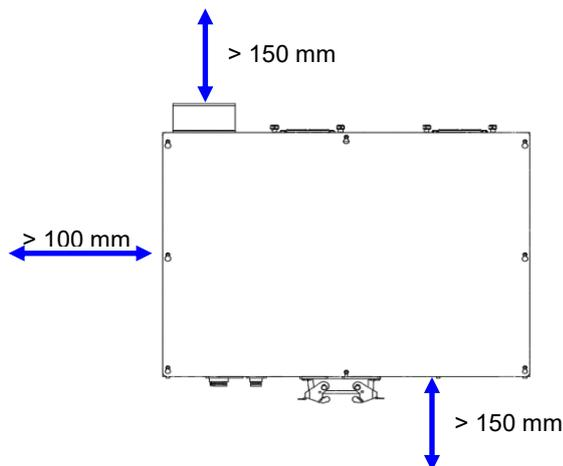

Figure 8.3 Controller installation cooling distance
2. When installing the controller, in order to make the cooling cycle work well, please keep a distance of at least 150 mm in the front and back of the controller, and reserve at least a 100 mm space on the left side of the controller. Figure 8.3 shows the cooling distance and space requirements for the installation of the power control box.